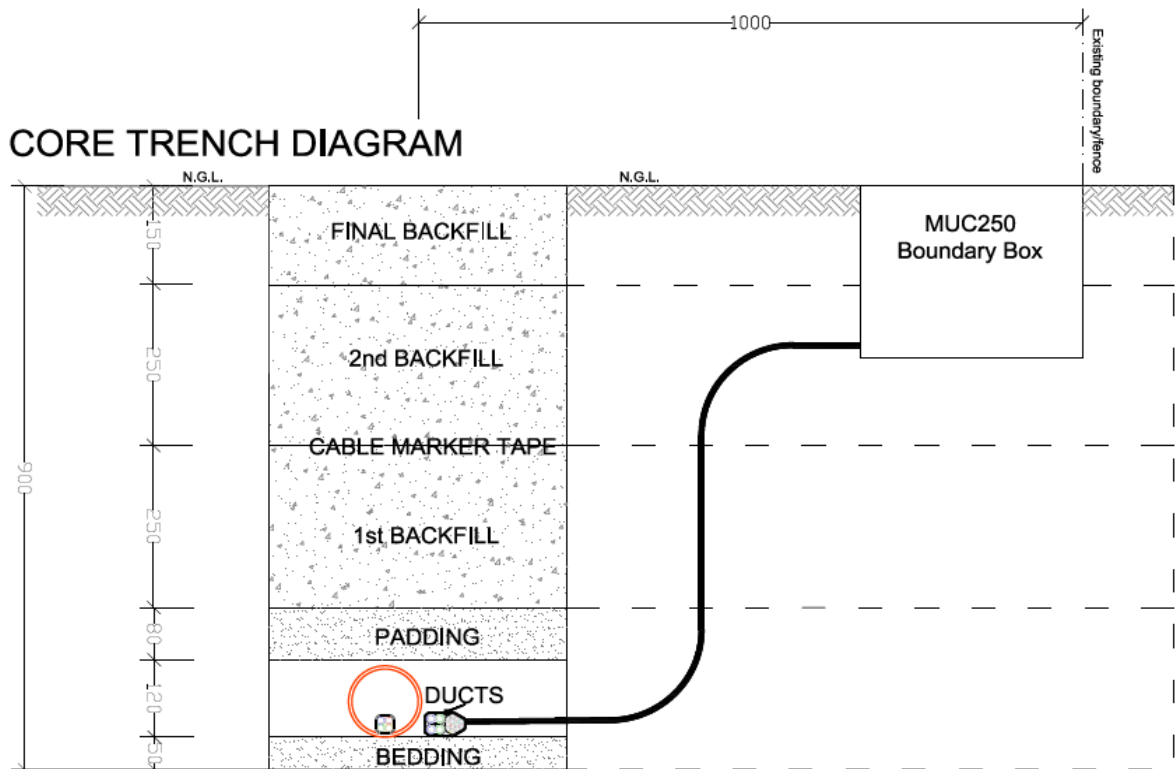

Figure 6.1 – Core Trench Diagram
- i. Refer to *Figure 6.1 – Core Trench Diagram* below as reference.